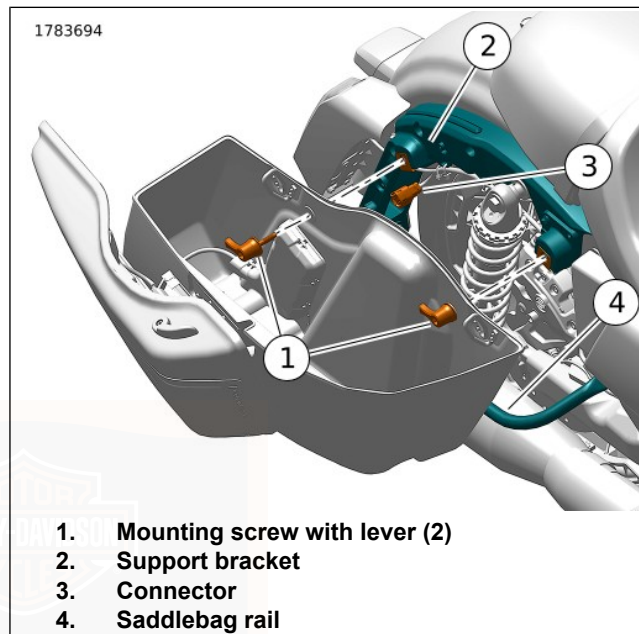
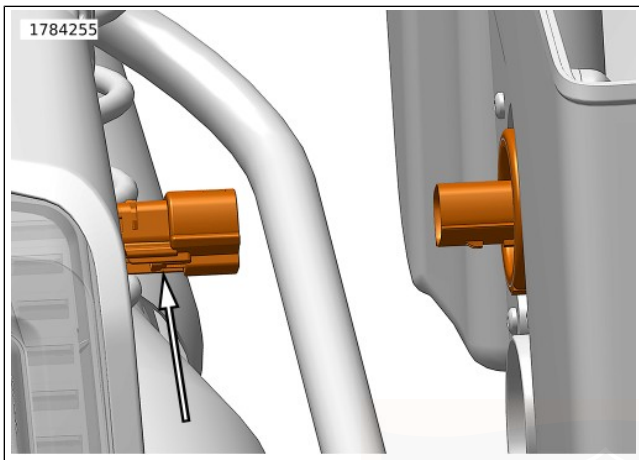

Figure 69. Saddlebag Removal/Installation
Figure 70. Right Side Harness Connector Release Tab
2. See Figure 69. Turn the mounting screw levers (1) counterclockwise to remove the mounting screws from the support bracket.
3. Support the saddlebag and disconnect the audio connector (3).
- a. See Figure 70. Press the release tab. Separate the connector halves.
1. See Figure 69. Carefully place saddlebag in position on saddlebag rail (4). Align the mounting grommets with the support bracket (2).
2. Support the saddlebag. Connect the audio connector (3).
- a. See Figure 70. Press the connector halves together until the release tab clicks.
3. See Figure 69. Install the mounting screws (1) through the grommets into support bracket (2). Turning the levers clockwise, tighten the mounting screws so the levers are pointed downward between the 3 o'clock and 9 o'clock positions as shown.